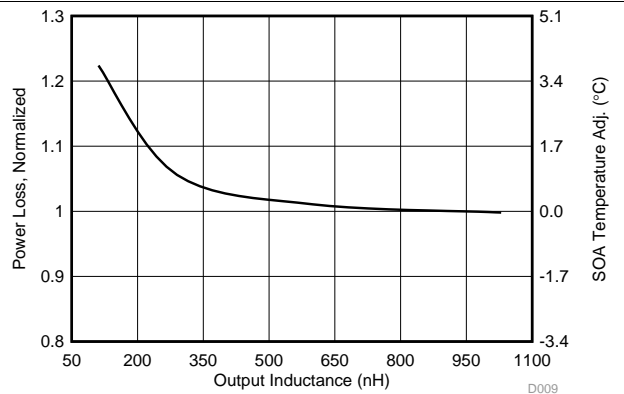

Figure 8. Normalized Power Loss vs Output Inductance
- Normalized power loss for output inductor  $\approx 1.01$  (Figure 8)
- SOA adjustment for output inductor  $\approx 0.18^\circ\text{C}$  (Figure 8)